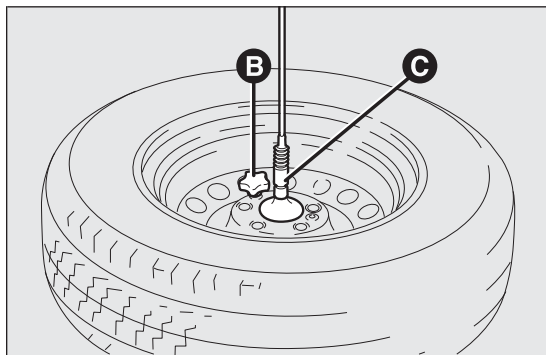

fig. 120
- ☐ remove the cap B fig. 120 and release the strap, when free the wheel from the toothed support C by loosen the two screws;